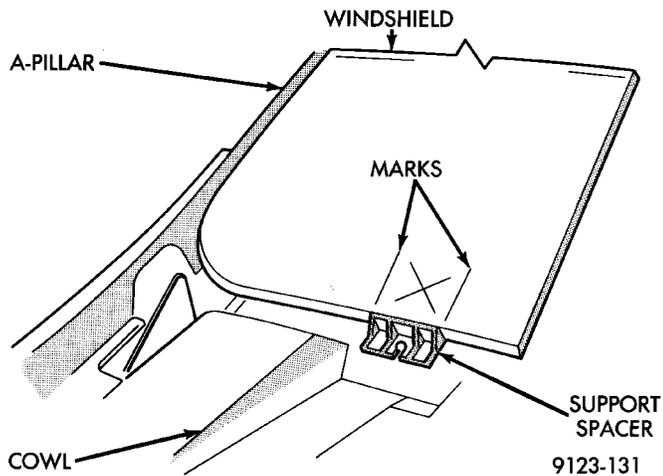
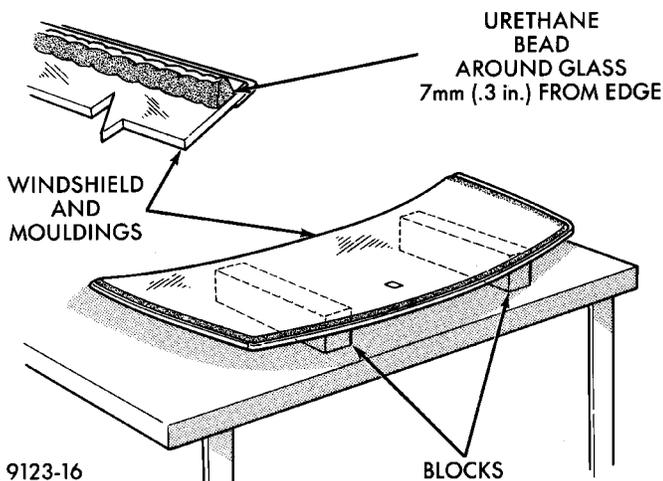

Fig. 3 Center Windshield and Mark at Support Spacers
Fig. 4 Work Surface Set up and Molding Installation QUARTER GLASS
(1) Place replacement windshield into windshield opening and position glass in the center of the opening against the support spacers.
(2) Verify the glass lays evenly against the pinch weld fence at the sides, top and bottom of the replacement windshield. If not, the pinch weld fence must be formed to the shape of the new glass.
(3) Mark the glass at the support spacers with a grease pencil or pieces of masking tape and ink pen to use as a reference for installation (Fig. 3).
(4) Remove replacement windshield from windshield opening.
(5) Position the windshield inside up on a suitable work surface with two padded, wood 10 cm by 10 cm by 50 cm (4 in. by 4 in. by 20 in.) blocks, placed parallel 75 cm (2.5 ft.) apart (Fig. 4).